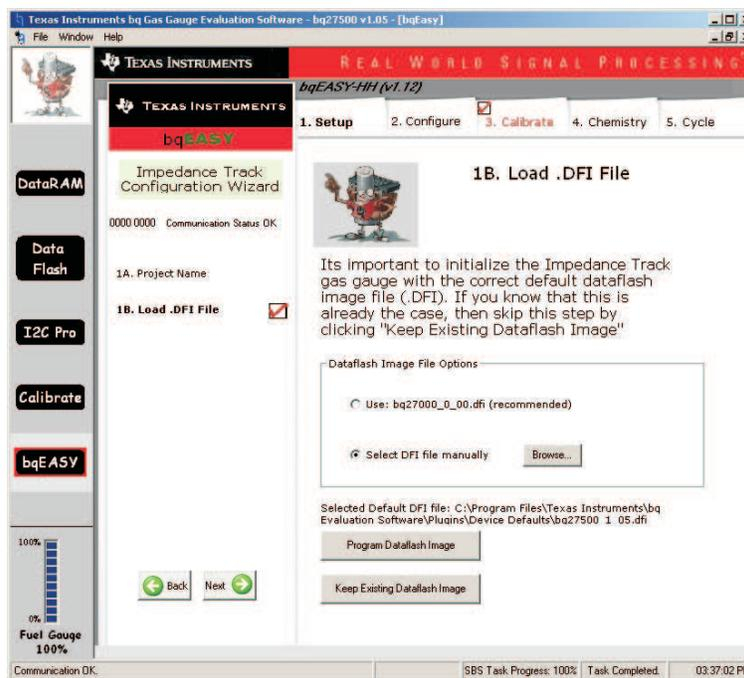

Figure 2. Load the DFI File
2. Load the old DFI file into the device with the old firmware version that matches the old DFI version using step 1B of bqEASY (see Figure 2).